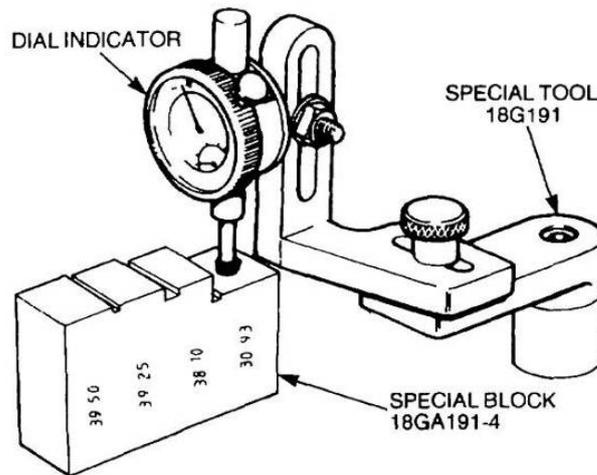

Figure 242 Zeroing the Dial Indicator
- g. Remove the keep-disc from the magnetized base of the dial indicator, special tool 18G191, and place the dial indicator and setting gauge, 18GA191-4, on a flat surface. Zero the dial indicator stylus onto the setting gauge (Figure 242).